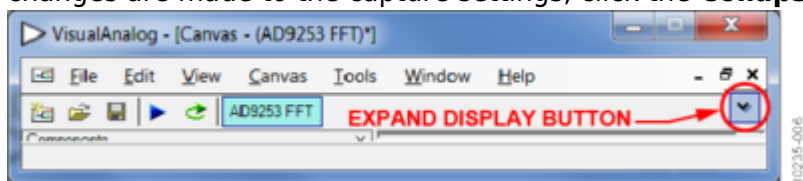
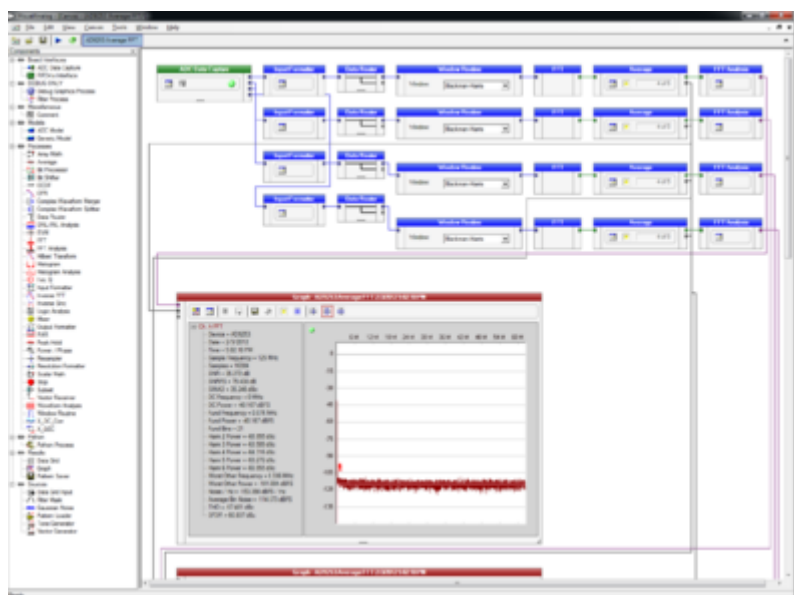

Figure 5. VisualAnalog Window Toolbar, Collapsed Display
Figure 6. VisualAnalog, Main Window Expanded Display
- located on the bottom right corner of the window (see Figure 5), to see what is shown in Figure 6.